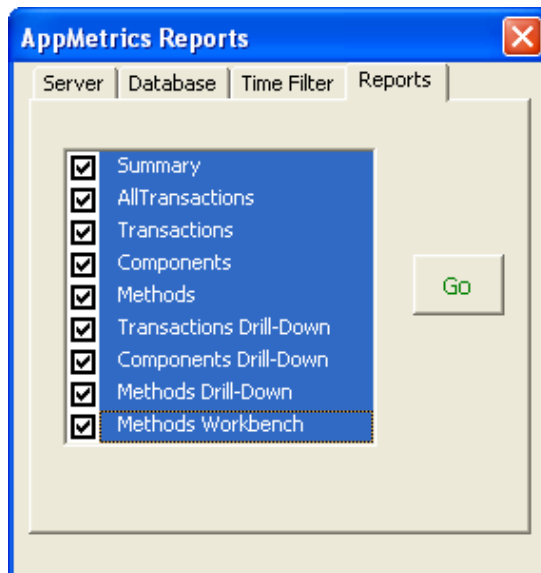

Figure 16
6. Click on the **Reports** tab, and select the specific report components you wish to see generated (see Figure 16).